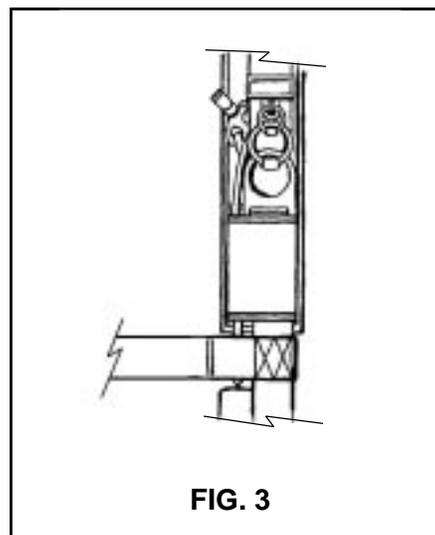

FIG. 3
Then the snap-shackle can be connected to the small ring behind the inboard side of the left main riser (**FIG. 3**).
4. Bring the white loop over the small ring only and then through the riser grommet so it pokes out the back of the riser (**FIG 3**).